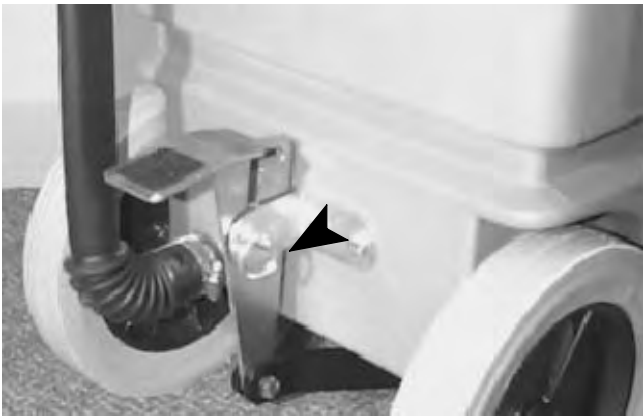

FIG. 4
9. Slide pedal between two mounting arms on back of machine. Align and insert clevis pin through arms and slot in pedal, secure with cotter pin (Figure 4).